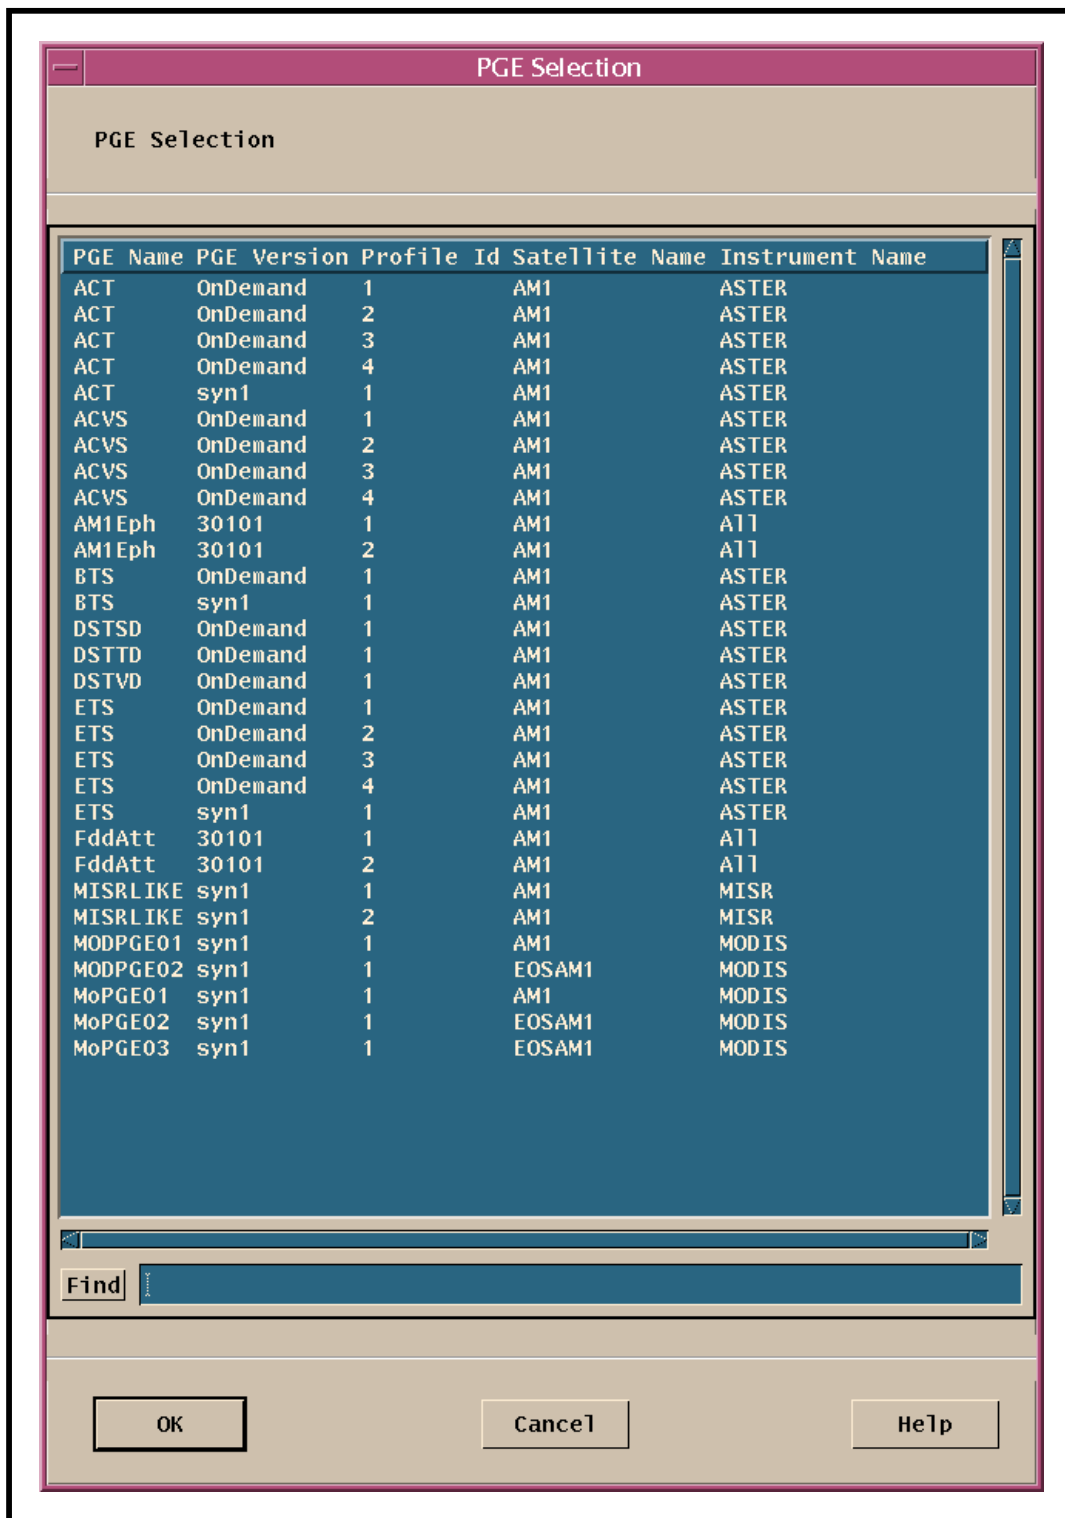

Figure 18. PGE Selection GUI
- Enter a number in the range of one (1) to ten (10).
- One (1) has the highest priority; ten (10) has the lowest priority.
- The **PGE Selection** GUI (Figure 18) is displayed.